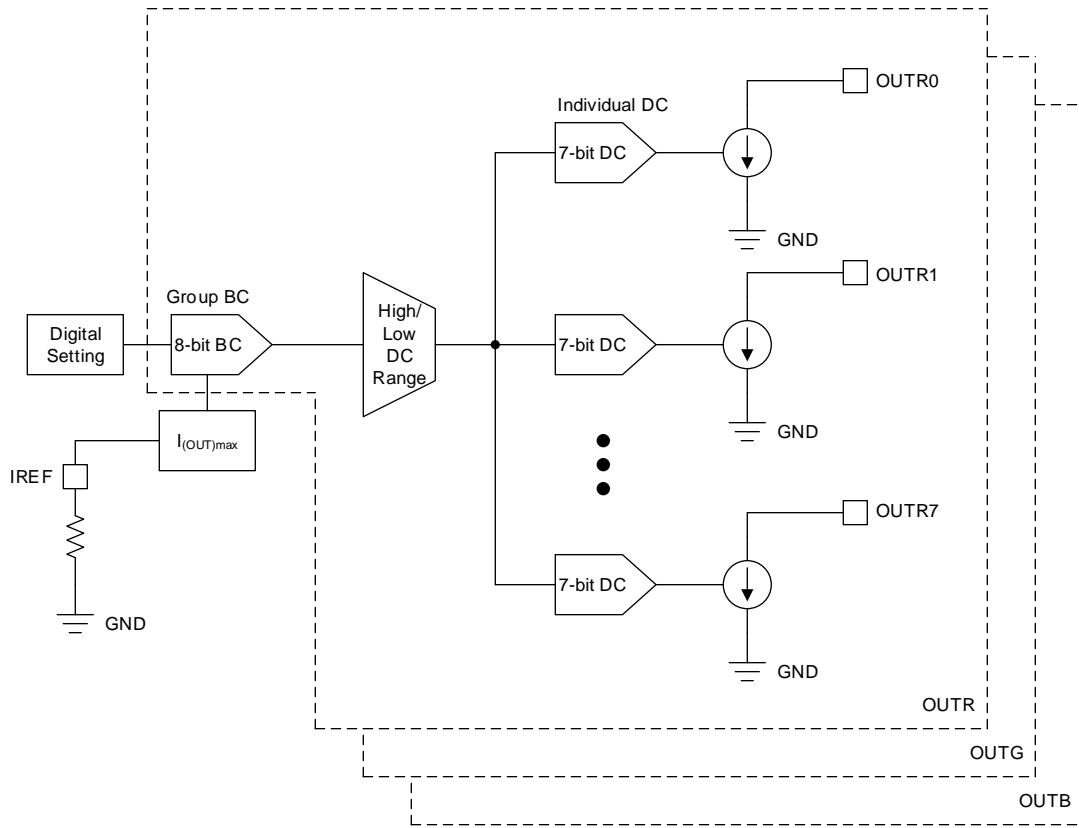

図 21. Brightness Control and Dot Correction Block Diagram
The TLC6C5724-Q1 device implements an 8-bit group brightness control (BC) and 7-bit individual dot correction (DC) to calibrate the output current. The 24 output channels are divided into three groups: OUTRn, OUTGn, and OUTBn. Each group contains 8 output channels. There are two configurable ranges for the DC value of each group. One is the low DC range with output current from 0 to 66.7% $I_{(OUT)max}$. The other is the high DC range with output current from 33.3% $I_{(OUT)max}$ to 100% $I_{(OUT)max}$. The IREF resistor, BC, DC, and DC range together determine the channel output current, as shown in 图 21. 式 2 and 式 3 are the detailed output current calculation formulas.